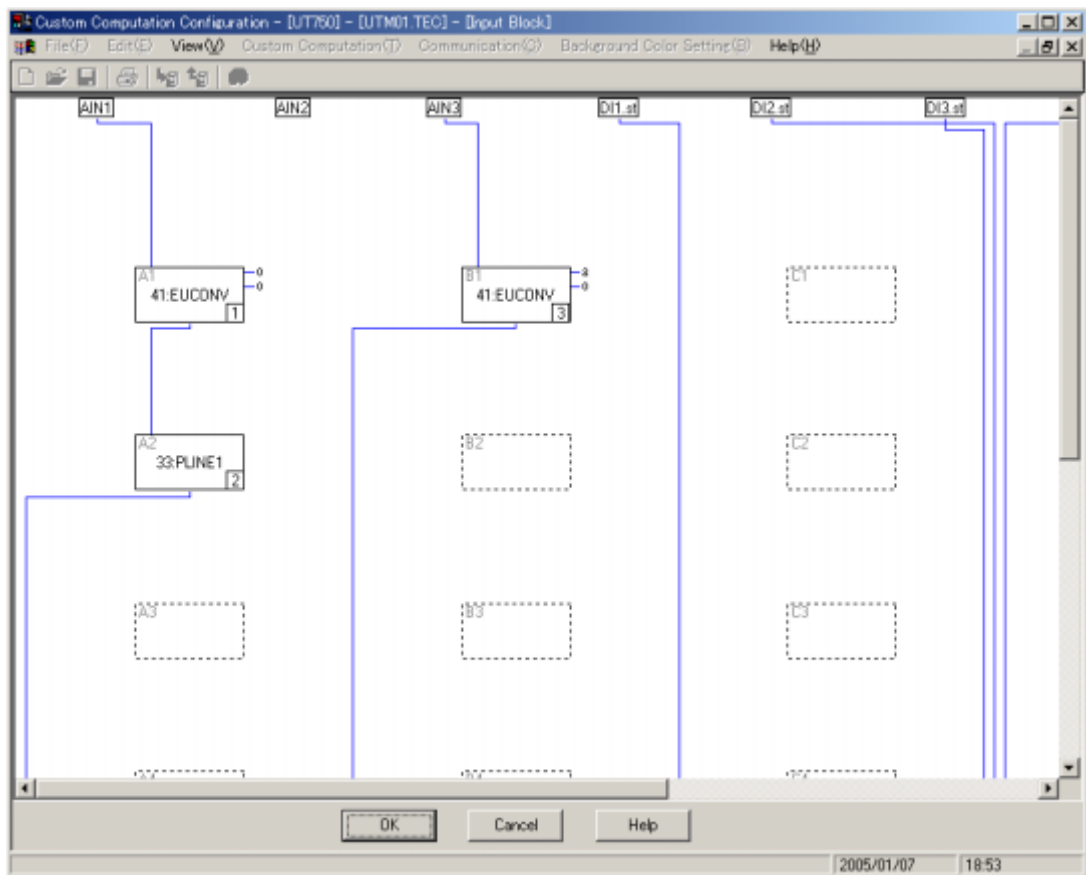

Figure 12.5.3 [Input Block] Dialog Box
- (1) In the [Custom Computation Configuration Menu] dialog box (Figure 12.0.2), click <Input Block>. The [Input Block] dialog box (Figure 12.5.3) appears.